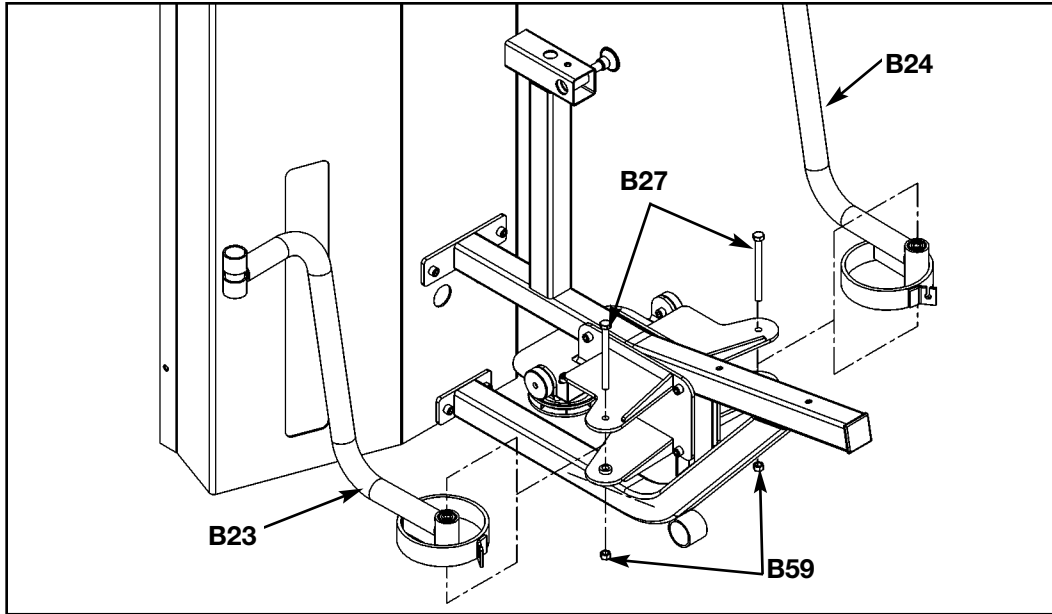

Figure 10
**5. Install left and right arms** (see steps 5A, 5B and Figure 10).
- B.** Install (user position) right arm (#B23) using HHCS 10 mm x 120 mm (#B27) and locknut 10 mm (#B59). See Figure 10. Repeat this step for installing the left arm (#B24).